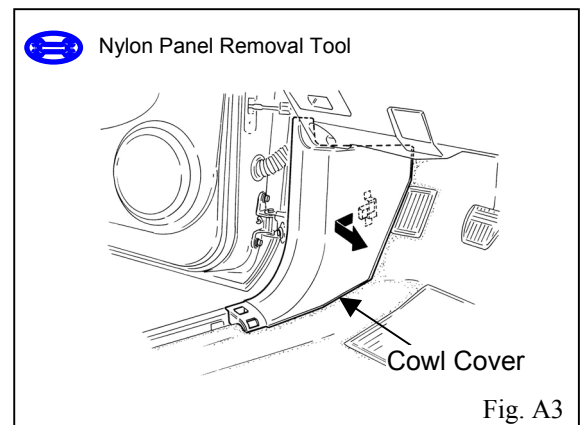

Fig. A3
3. Remove the driver side cowl cover. (Fig. A3)